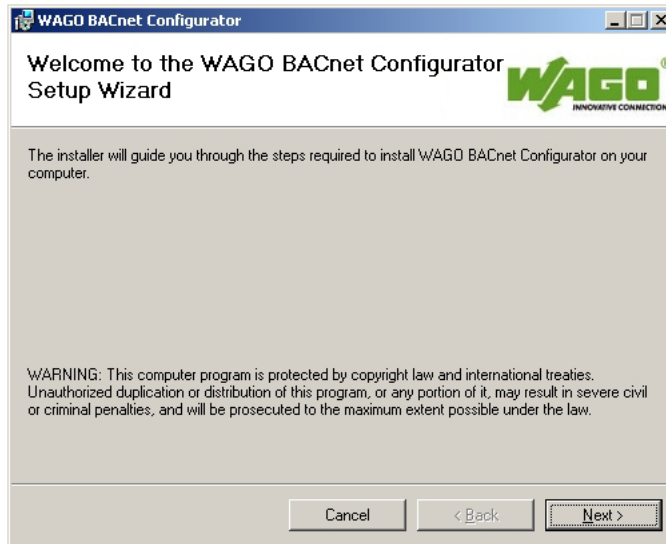

Fig. 2-1: Start installation
2. Click on [Next] to start the next installation step (see Fig. 2-1).